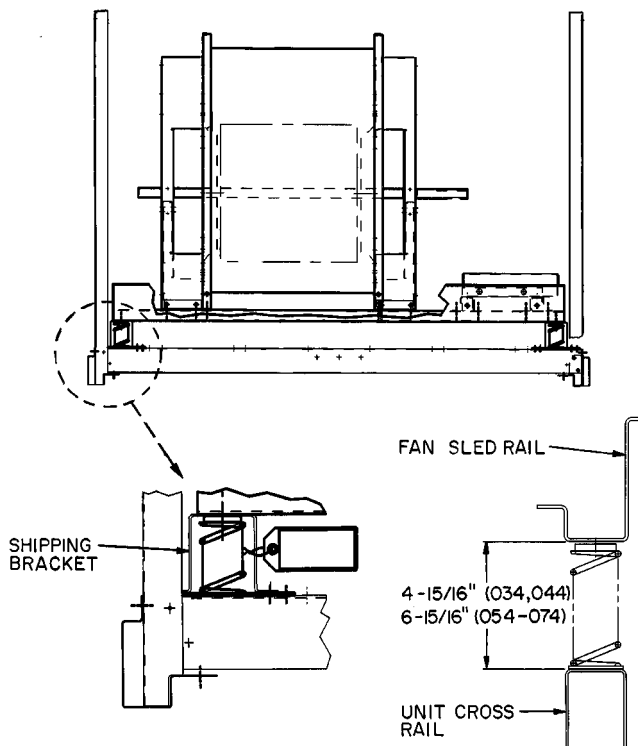

Fig. 30 — Shipping Brackets; 034,044 Units and 50 Series Vertical Discharge 054-074 Units
4. After removing all shipping brackets, level fan sled using the adjusting screws. On all 4 corners, dimension from cross rail to fan sled should be as shown in Fig. 30.
UNIT SIZES 054-074 — To remove shipping brackets, remove the 6 screws holding each bracket to the cross rail. There are 8 brackets per unit. See Fig. 30 or 31.
After removing all shipping brackets, level fan sled using the adjusting screws. On all 4 corners dimension from cross rail to fan sled should be as shown in Fig. 30 or 31.